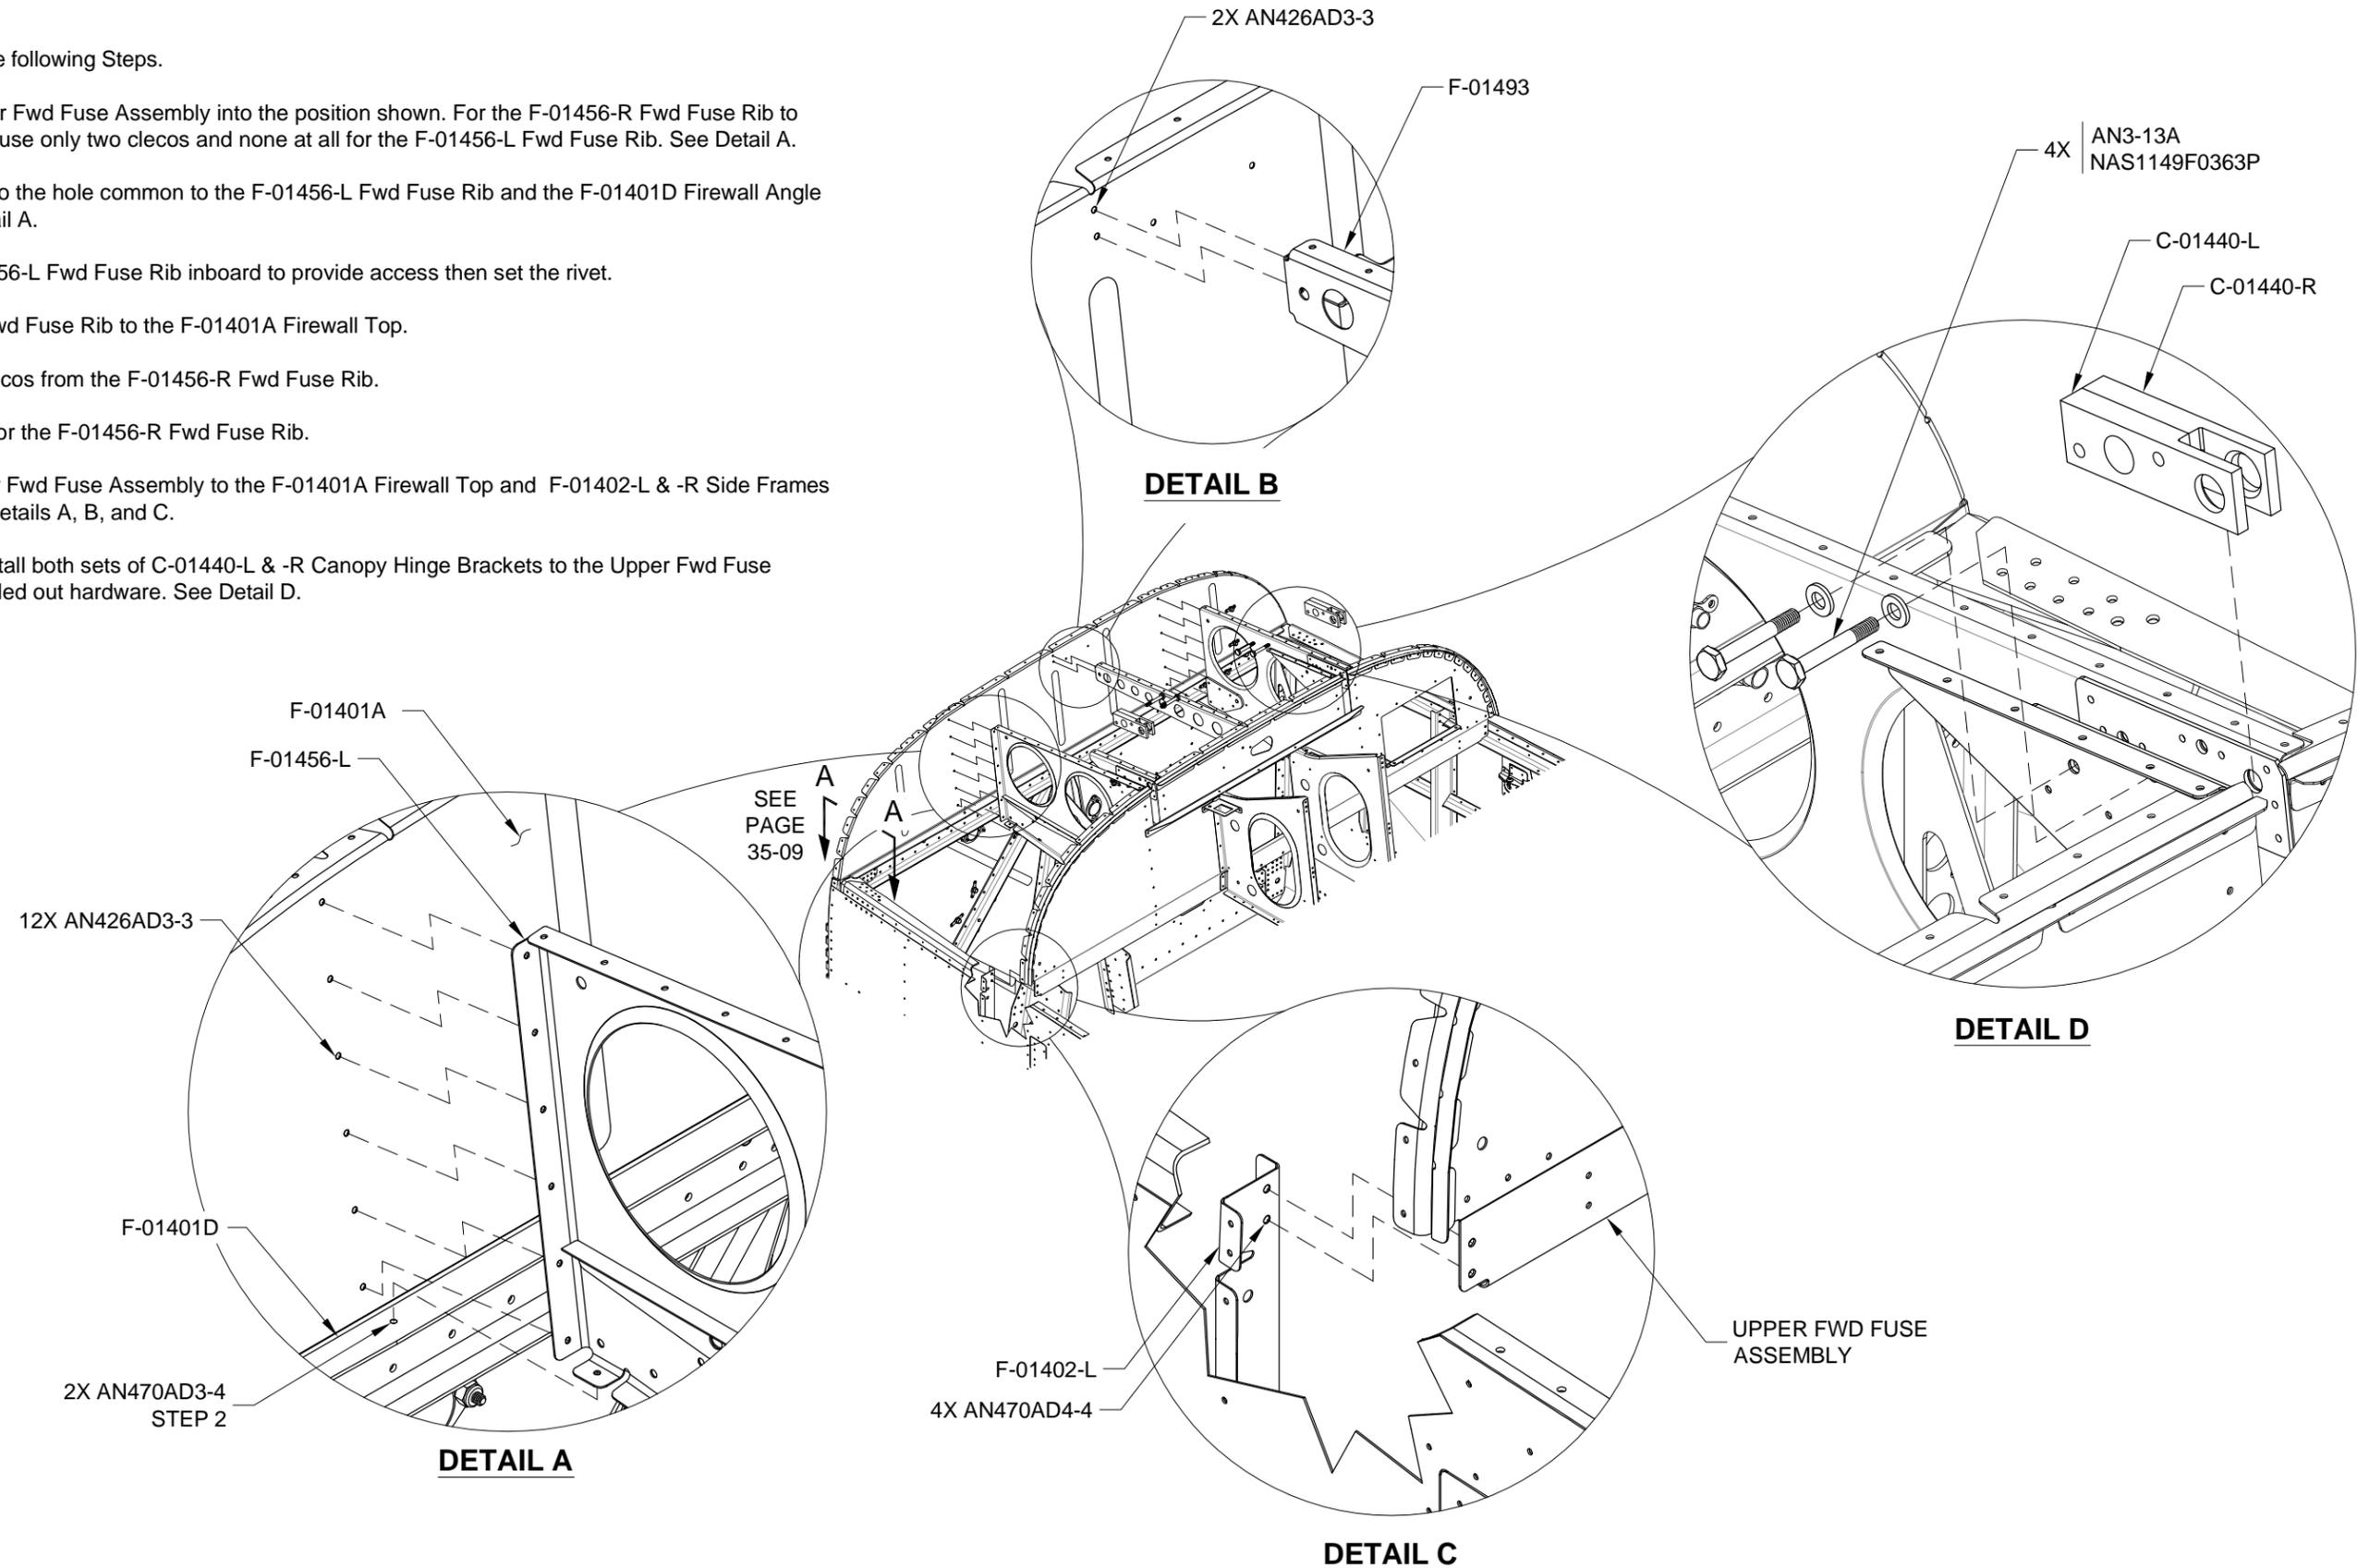

FIGURE 1: INSTALL UPPER FWD FUSE ASSEMBLY
Step 1: Fabricate two small foam blocks from SEAL-00003 Foam PVC .375X.625 per the dimensions shown in Figure 1.